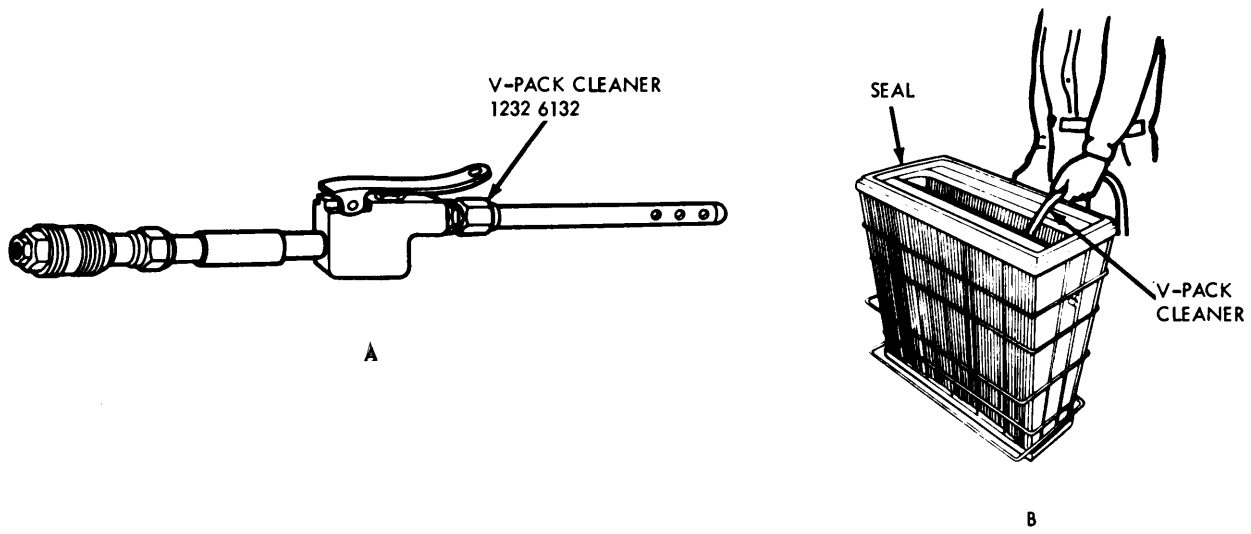

Figure 6-13. Air cleaner filter element compressed air cleaning.
- (a) *Compressed air cleaning (Fig. 6-13).*